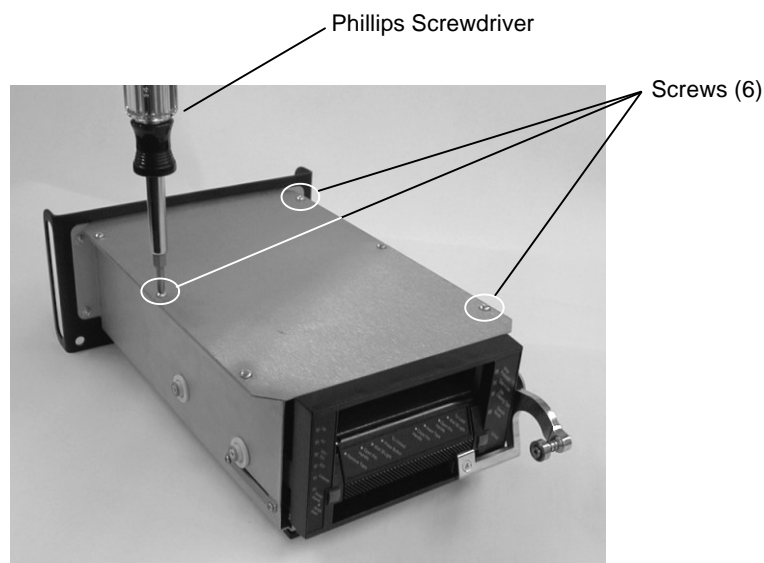

Figure 7 Screws in Top Cover of DLT Tape Drive
5. Using a Phillips screwdriver, remove the six screws that secure the top cover. See Figure 7.